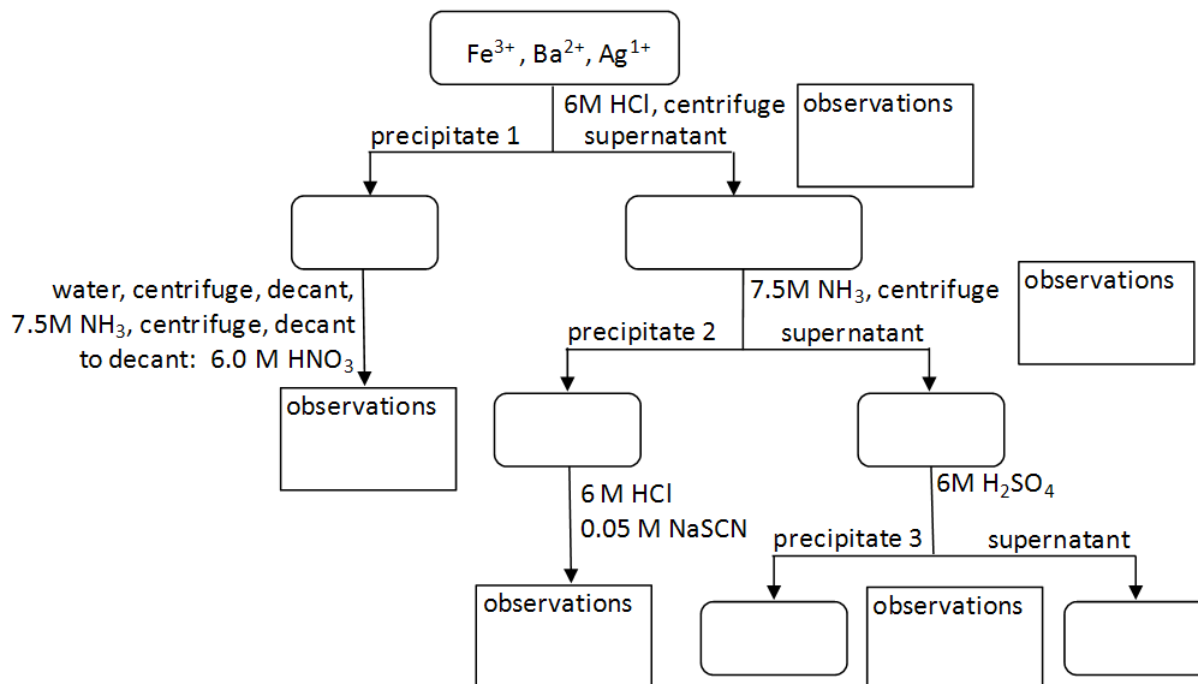

Figure 1: Qualitative Separation Scheme and Confirmation of Iron(III), Barium, and Silver(I) Ions
**Note:** As you work, document observations regarding the color of precipitates and solutions in the Figure 1 Qualitative Separation Scheme on your lab worksheet. These observations will aid you in identifying the components of the unknown mixture in Part C.